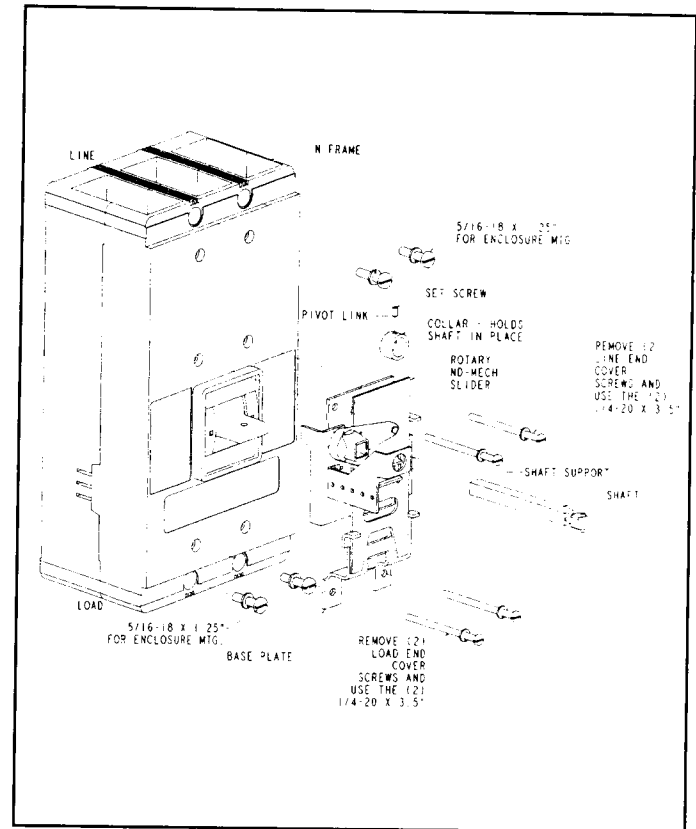

Fig. 2-2 N-Frame Breaker/Mechanism Assembly
3. Mount circuit breaker to enclosure using the four (4) 5/16-18x1.25" long screws in the hardware kit. Insert screws and lockwashers into load and line end circuit breaker mounting holes and tighten securely into tapped holes from step 1. (Fig. 2-2)
4. Mount mechanism onto circuit breaker, ensuring slide plate is engaged with the circuit breaker handle. Remove the (2) breaker cover screws and (2) load cover screws as shown in Fig. 2-2 and discard. Insert the (4) screws (1/4-20x3.5) enclosed, along with lockwashers from the hardware kit, through the mounting holes of the mechanism and into the empty cover screw holes of the circuit breaker, as shown in Fig. 2-2.
5. Take set screw and shaft collar from hardware kit and insert set screw into shaft collar. Place square end of shaft through shaft support bracket then through shaft collar and into square opening of die cast pivot link on the operating mechanism attached to the circuit breaker, as shown in Fig. 2-2. Position shaft collar lightly against the underside of the shaft support collar and torque set screw between 28-30 in-lbs.